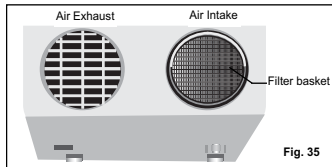
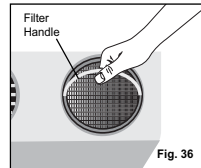

Fig. 35
Fig. 36
- 1b) To remove the air intake filter (Fig. 35): Simply tilt the filter handle upwards and pull out the filter basket. (Fig. 36).